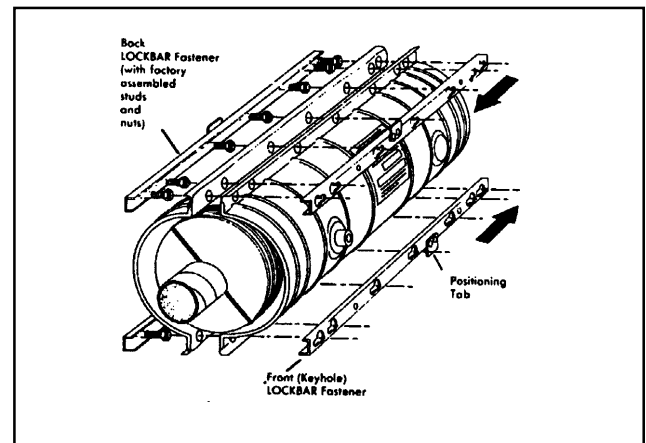

FIGURE 28 – LOCKBAR FASTENING
LOCKBAR Fastener (front and back). These tabs should always point away from the Splice Case and will help assure proper alignment and eliminate the chance of a LOCKBAR Fastener being misapplied. (Figure 28)
14.07 Install LOCKBAR Fastening system as shown in Figure 28. LOCKBAR Fastening consists of a (back) studded LOCKBAR Assembly with factory assembled threaded bolts and nuts, and a (front) keyhole LOCKBAR Assembly. The back LOCKBAR Assembly mates with the front LOCKBAR Assembly through the flange of the Splice Case shells, and then locks into position.